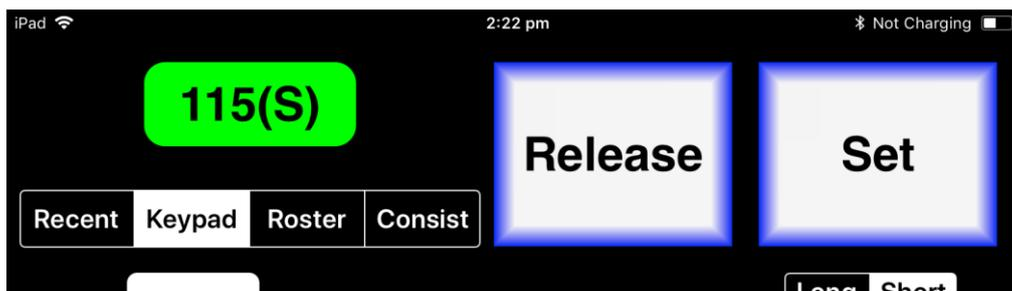

Figure 13 The loco is successfully selected
(11)The red button at the top left should turn green to show the loco is selected as Figure 13.